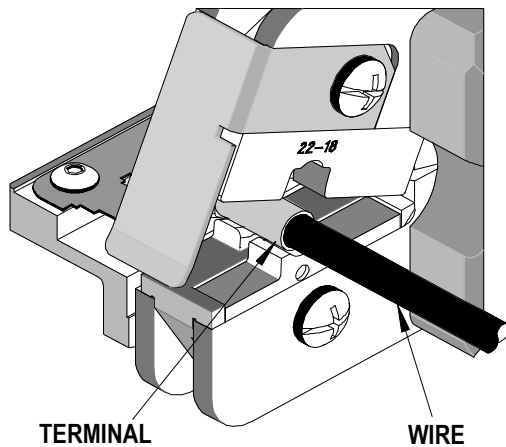

Figure 2
3. Push on the wire to assure it is still fully seated in the terminal. The wires end should butt against the wire stop stamped into each terminal. See Figure 2 and 3. Cycle the tool.